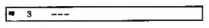

Fig. 20
- Press Δ + or ∇ - until »---« appears in the SYSTEM position. (See Fig. 20.)